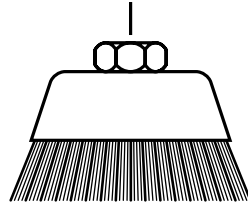

FIG. 5
6.4 FITTING/REPLACING ACCESSORIES (sold separately) – FIG. 5
When fitting the appropriate accessory please refer to (Fig.5) for specific details on the locking flange correct orientation as applicable.